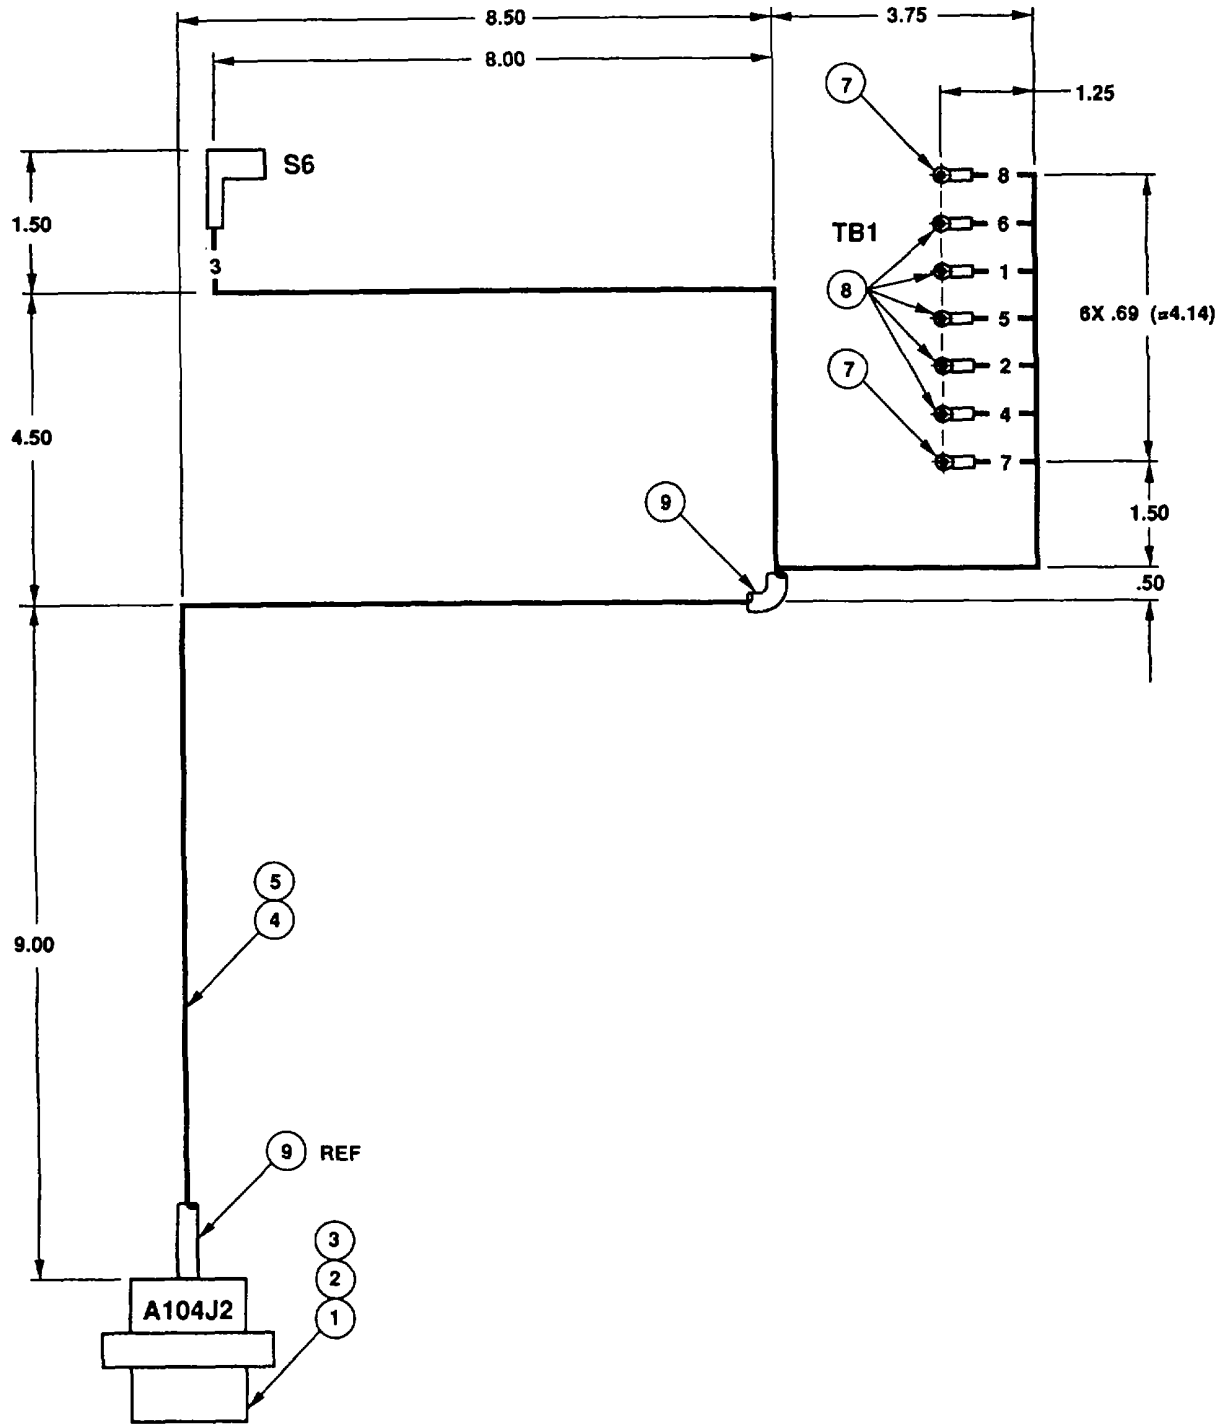

Figure F-2. Wiring Harness A10J102.
13230E4368	Figure F-2
- b. Remove and discard cable clamp adapter (Figure F-2, 2), insulation sleeving (3), and insulation sleeving (9) from connector (1) and wiring.
- d. Refer to table F-4 to determine wire and cut wire to dimensions shown in Figure F-2.
- f. Install wire in connector (1).
- g. Install new cable clamp adapter (2), insulation sleeving (3), and insulation sleeving (9), as shown in figure F-2, and heat shrink to a firm fit.